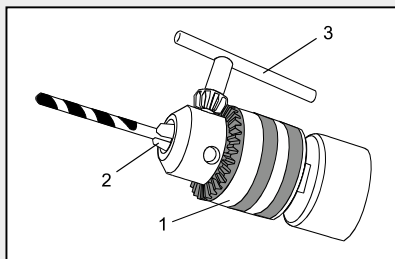

Fig. 7
2. Rotate chuck collar (1) to open or close the jaws (2) to a point where the opening is slightly larger than the bit size you intend to use (Fig. 7). Raise the front of your drill slightly to prevent the bit from falling out of the chuck jaws.
4. Insert chuck key (3) into one of three holes in the chuck body. Rotate chuck key clockwise until drill bit is held firmly in place by the chuck jaws.